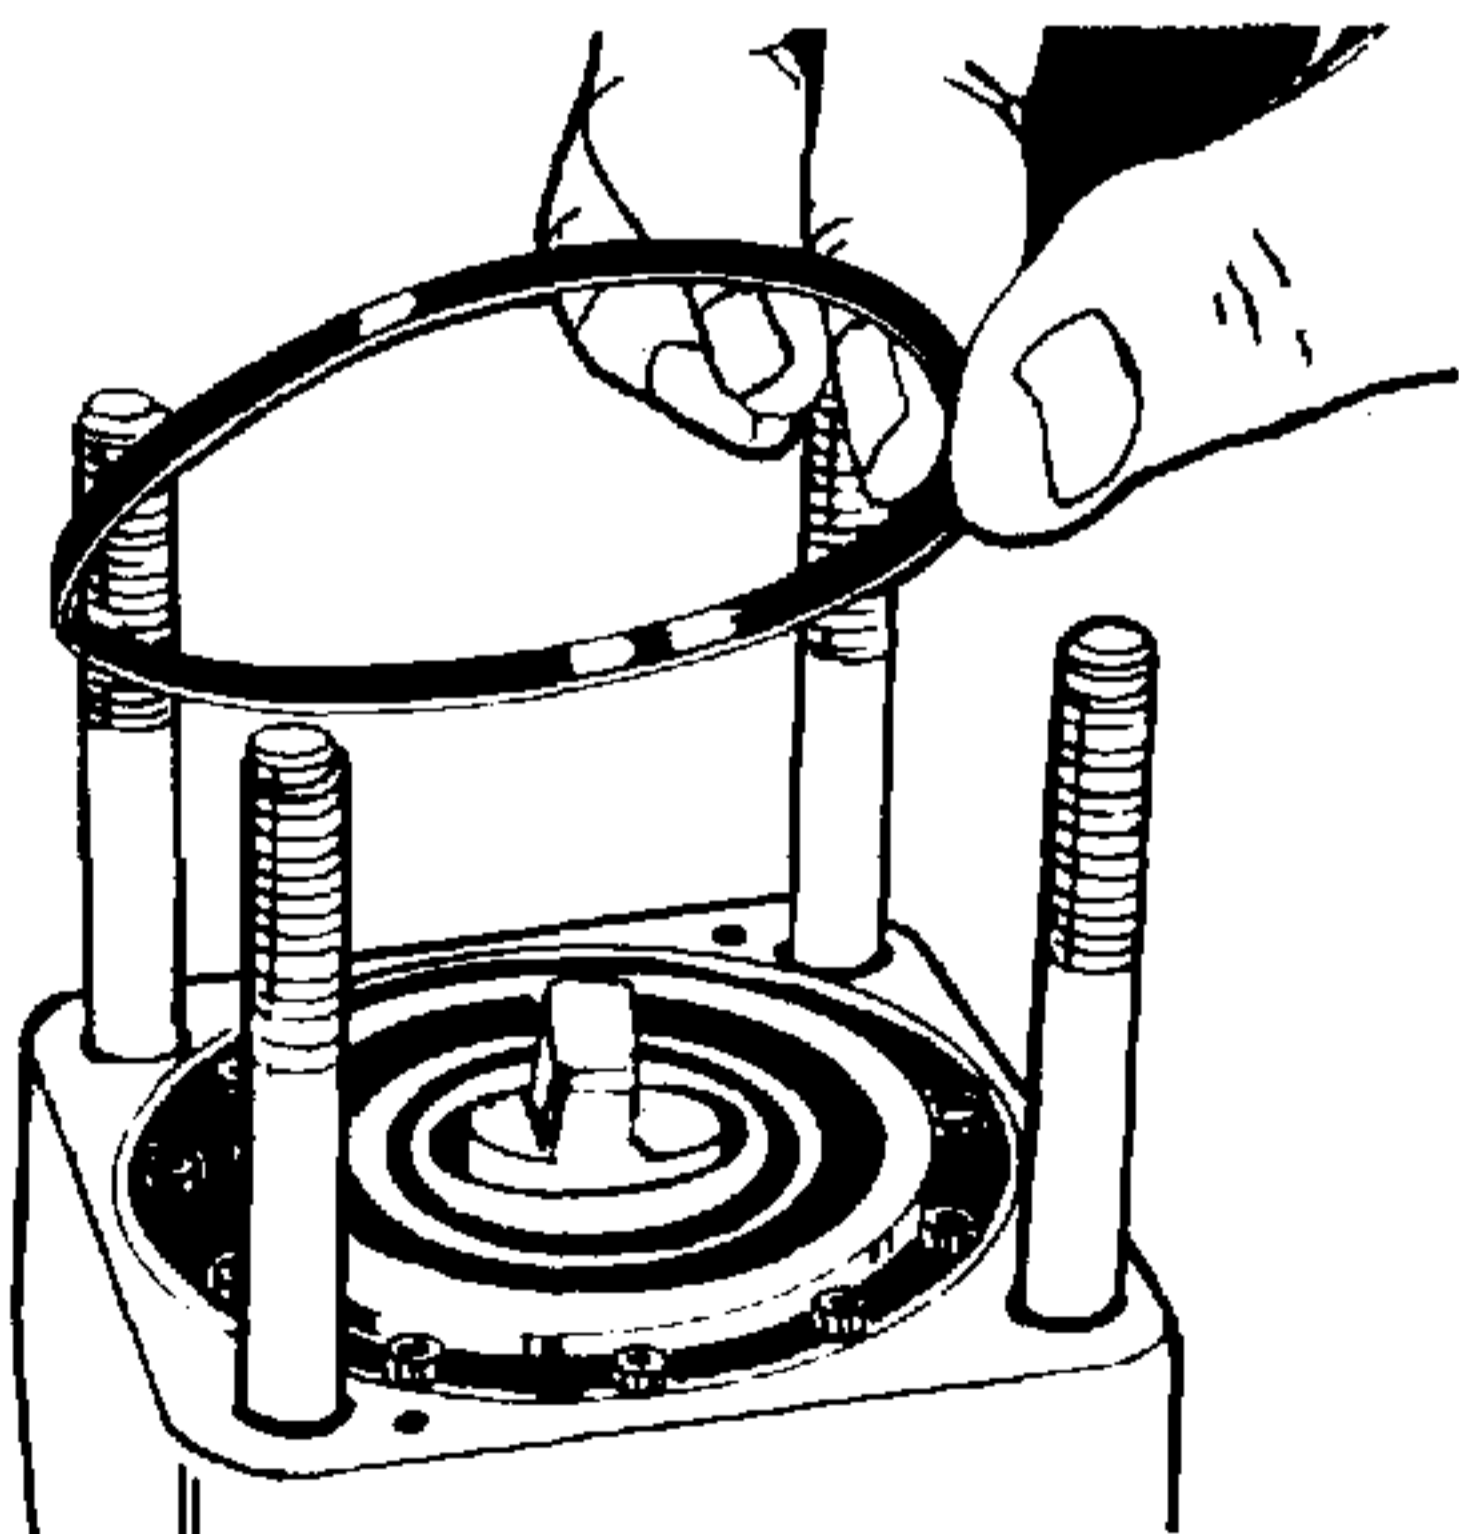

Figure 4-75. Installing Metering Ring Seal Ring.
27. Apply clean grease to the metering ring seal ring (4, Figure 4-1). Place the seal ring into the metering ring seal ring groove. See Figure 4-75.